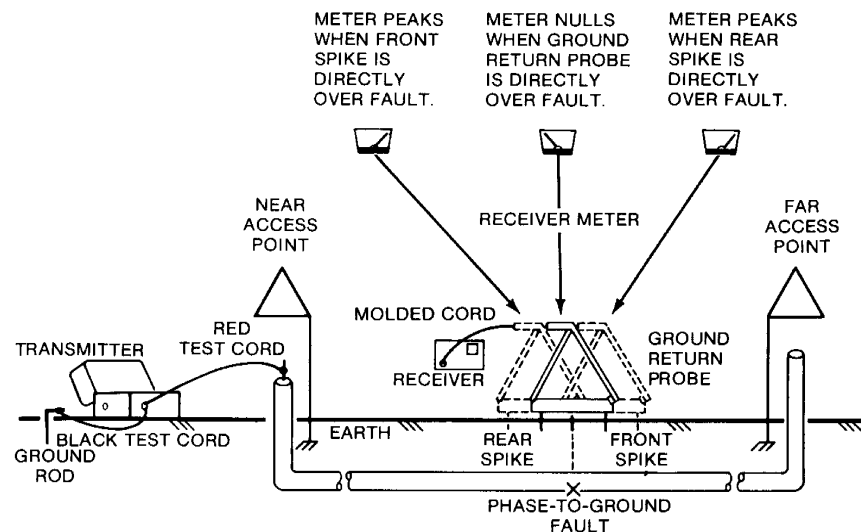

Figure 4-1.
3. Connect the black test cord clip to the ground rod (see Figure 4-1).
4. Plug the jack end of the red/black test cord into the TRACING TONE jack receptacle on the transmitter (see Figure 4-1).